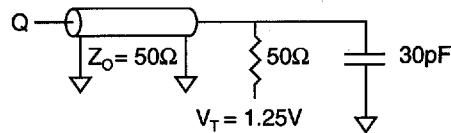

Fig. 1 OUTPUT LOAD EQUIVALENT
Output load	See Figures 1 and 2
5. Test conditions as specified with the output loading as shown in Fig. 1 unless otherwise noted.
6. Output loading is specified using Fig. 1 with $C_L = 5pF$ versus $30pF$. Transition is measured $\pm 150mV$ from steady state voltage.